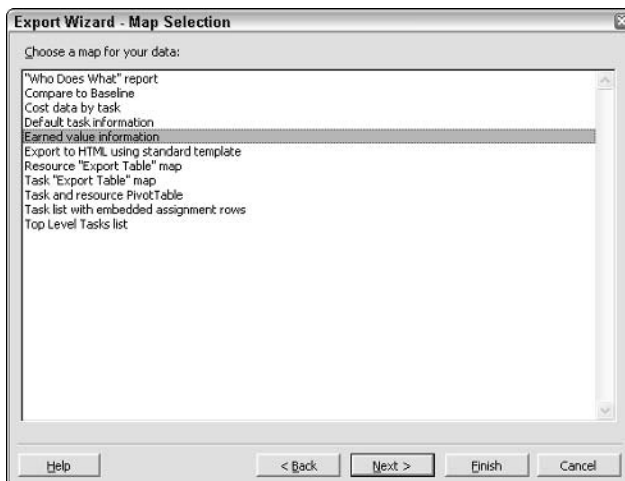

Figure 14-11: Choose Earned value information as the map from the Export Wizard dialog box.
8. Choose Earned Value information from the list of available maps in the Export Wizard dialog box, as shown in Figure 14-11, and click Finish.